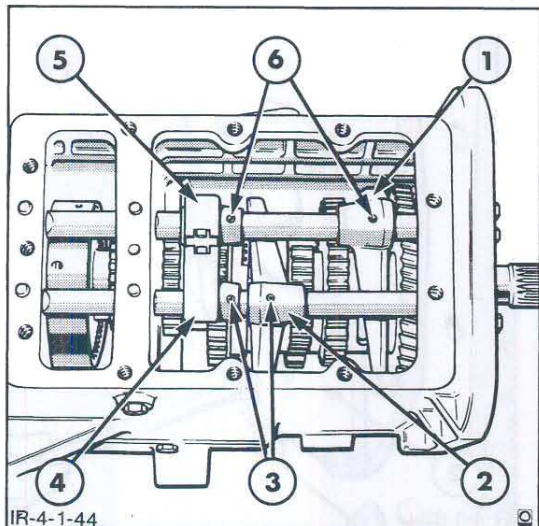

Figure 64
1. Install the 1st/2nd and 3rd/4th gear shift forks into the respective synchroniser assemblies, Figure 64.
2. Insert the 1st/2nd gearshift rail into the transmission case from the rear end of the transmission. Slide the rail through the 1st/2nd gearshift fork then install the 1st/2nd gearshift gate onto the rail. Continue sliding the rail until it is in approximately the neutral position, Figure 64.